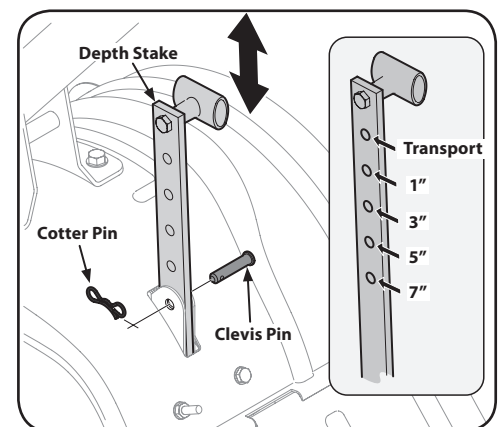

Figure 4-3
1. When using the tiller for the first time, use the second adjustment hole from the top (1" of tilling depth). See Figure 4-3.
6. To adjust the depth stake, remove the clevis pin and cotter pin. Move the depth stake to the desired setting and secure with the clevis pin and cotter pin. See Figure 4-3.